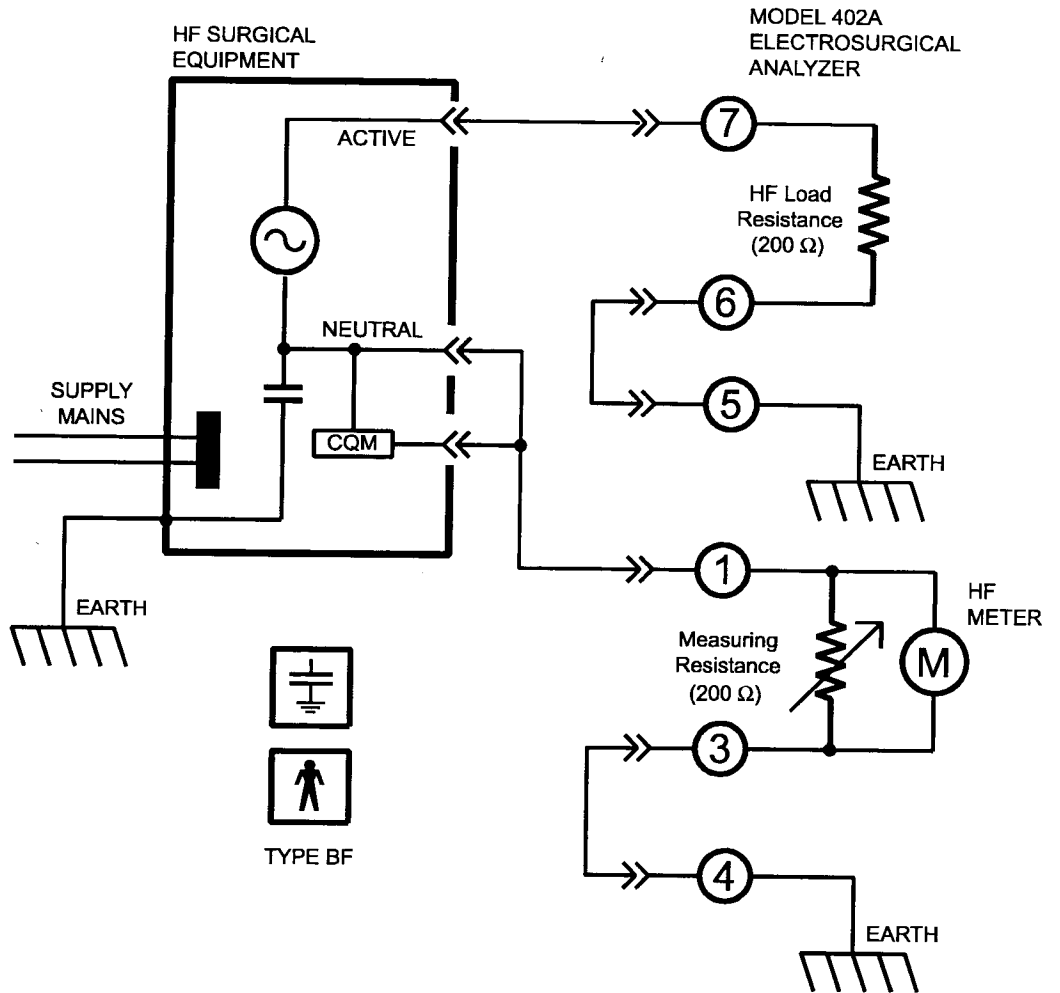

Figure 5-3. Diagram of HF Leakage Test Number Two.
The HF leakage test number two (2) is an IEC earth-referenced, BF-type, HF leakage current test. You perform the test by connecting the auxiliary 200-ohm HF load resistance from the ESU's active electrode to earth/ground on the Model 402A. Then you connect the measuring resistance/HF meter 200-ohm test load from the ESU's neutral/dispersive electrode to earth/ground on the Model 402A. The Model 402A then displays the high frequency current leakage from the ESU you're testing. See Figure 5-3 for a diagram of this test at the end of this section.